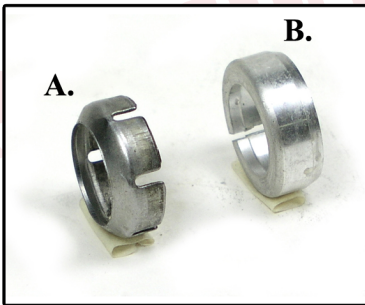

Figure 4
4. There are two types of race retainers: Version one was tin and loosely looks like a bottle cap (Figure 4 A). The second version is a billet aluminum item. We will be using the billet aluminum one. (Figure 4 B)